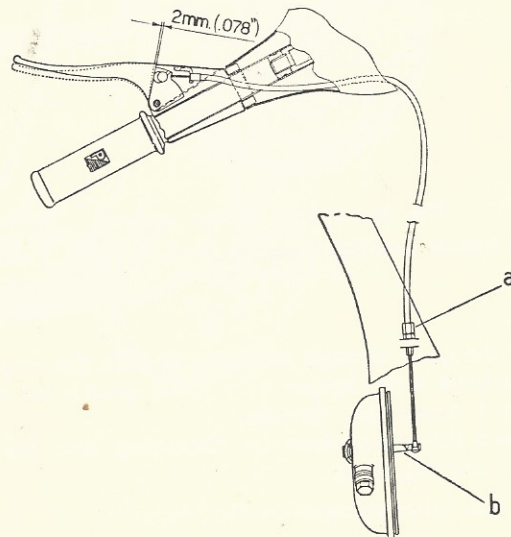

Fig. 18 - Adjustment of clutch control
**Adjustment of clutch control.** - Adjustment of clutch controls is achieved operating on adjusting nut (a), screwed to the engine bracket (see Fig. 18), by means